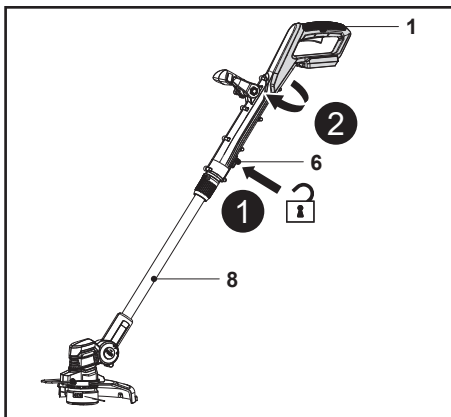

Fig. 7 (initial position 0°)
1. Press down the unlock button (6) and turn the main handle (1) clockwise while holding lower pole (8) to adjust the trimmer head (12) to an angle of 180° (Fig. 7). Release the unlock button (6) and keep turning the main handle (1) until it locks in place. Ensure the unlock button (6) snaps into place.